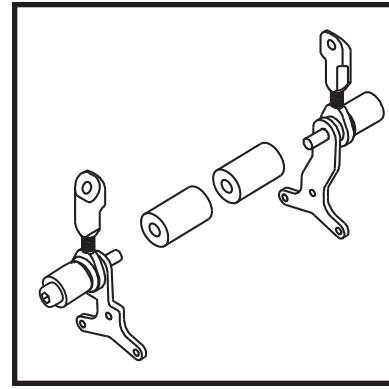

Figure 2: Ankle Joint Assembly with Alignment Kit
2. Substitute the two alignment screws for the ankle joint screws for positioning of joints on alignment rod as shown in Figure 2.
5. Cut two (2) pieces of teflon sheeting 3/4" oversize using the supplied precut PolyCar-C™ as a pattern. Cut the 3/4" hole in the Teflon to match the precut PolyCar-C™.